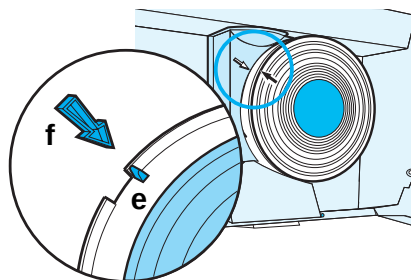

Fig. 4
... of the carbon filter (Fig. 4):
4. **Mounting:** fit the carbon filter over the motor protection grille. Line up the plastic reference tab (e - Fig. 4) on the carbon filter with the reference mark on the fan shroud (f - Fig. 4) and turn clockwise until it locks.